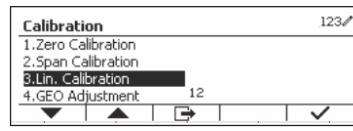

Figure 15
2. Press the softkey corresponding to the ✓ icon to enter the Calibration submenu. Scroll to Linearity Calibration using the softkey corresponding to the ▼ icon. (See Figure 15)